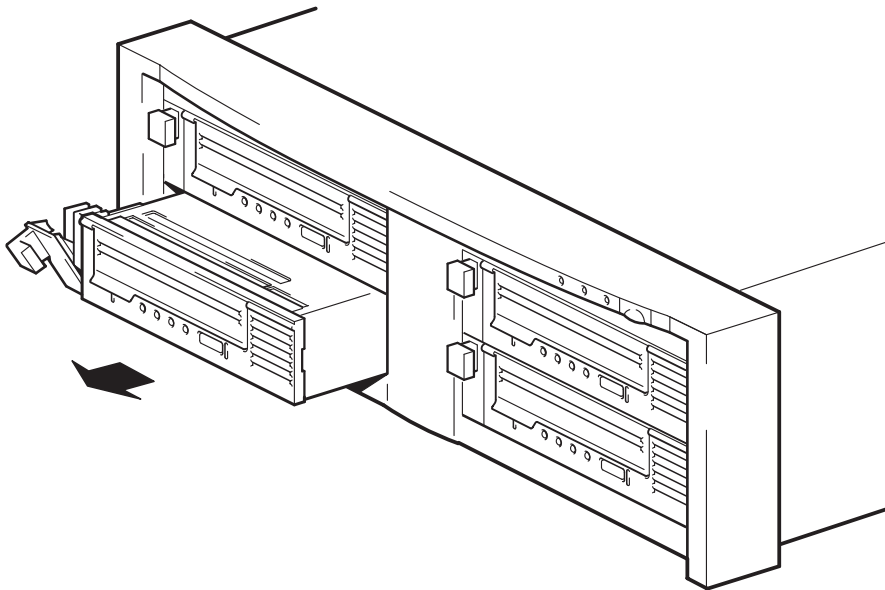

Figure 9b: removing the drive
- 2 Using the extraction lever, pull the drive gently and firmly out of the tape array. (See Figure 9b.)